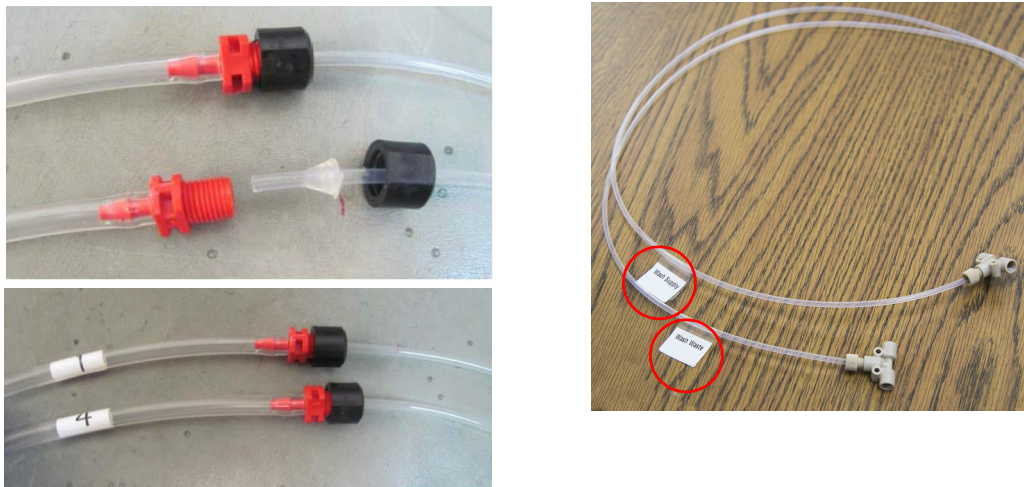

Figure 2-21 Wash and waste tubing connections and labels
9. Connect the tube labeled “Wash Waste” to the tube labeled “4” connected to port “4” of the peristaltic pump on the back of the Autosampler Module. The free end of the tubing can be placed in the waste container or tee’d into an existing waste line (Figure 2-21).